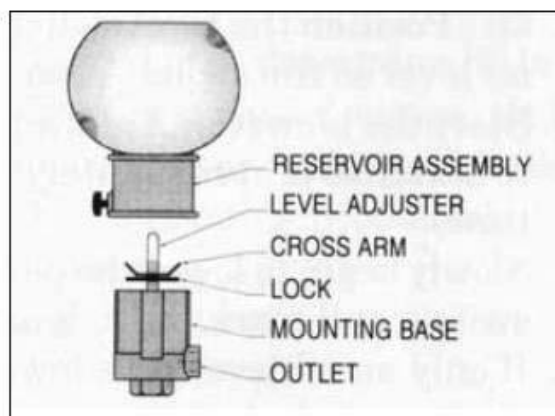

Figure 6
The opposite gear end sumps use constant level oilers. To fill the sumps, remove the top glass reservoir. Fill it with oil, place it on its holder, and let the bottle empty to fill the sump. To obtain proper oil level in the sump that is toward the center of the sight glass (90), pull out the level adjuster (A) shown in Figure 6 and raise or lower the cross-arm (B) as needed. Secure the cross arm with the lock (C), drop the assembly back into the lower reservoir, and replace the bottle. Note: Raising the cross arm (B) raises the oil level and lowering it lowers the oil level.